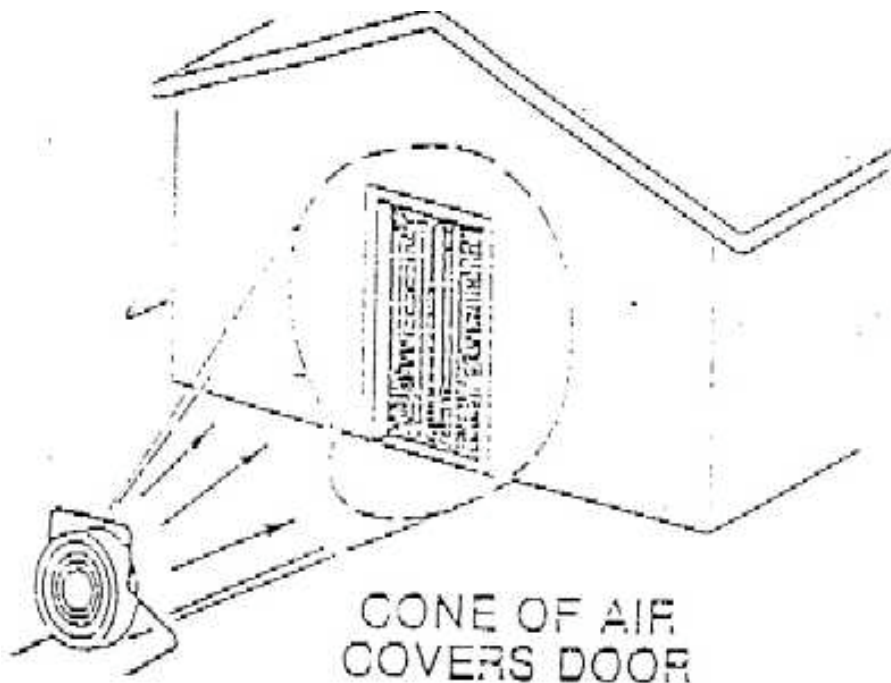

FIGURE 1
- 1. Place fan 5-6 feet away from door opening so as to have the entire door area sealed in a "cone" fashion. (See Figure 1.) Check for proper placement by feeling around the opening with a bare hand for air flow.